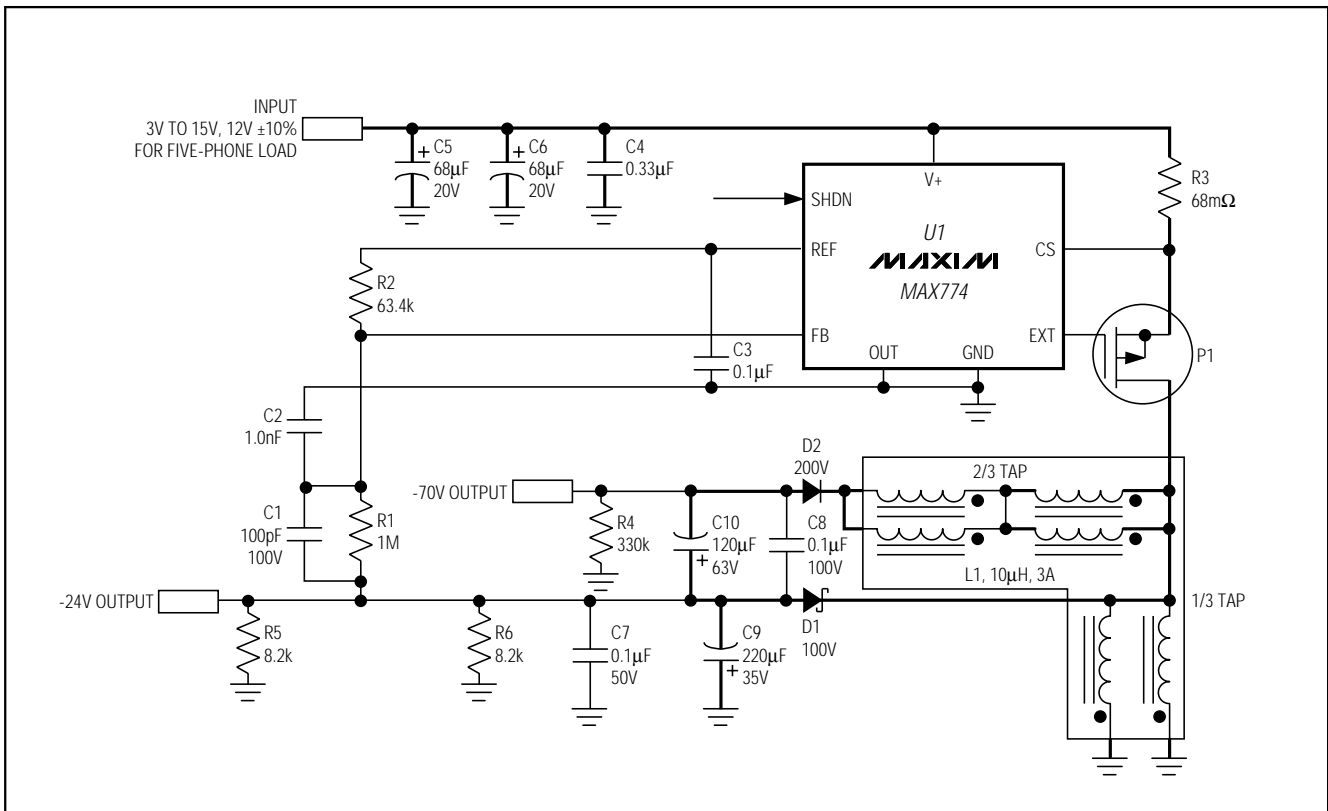

Figure 1. MAX774 IRG EV Kit Schematic
The EV kit schematic (Figure 1) and the MAX774 block diagram in the MAX774/MAX775/MAX776 data sheet show how the circuit works. When the -24V output drops out of regulation, the error comparator in the MAX774 initiates a switching cycle. The P-channel MOSFET (P1) turns on, allowing current to ramp up through the transformer's lower windings (between the 1/3 tap and ground) and store energy in a magnetic field. When the current through the sense resistor crosses the trip threshold ( $210\text{mV} / 68\text{m}\Omega = 3.09\text{A}$ ), the MOSFET turns off and interrupts the current flow, causing the magnetic field in the transformer to collapse. The transformer forces current through the output diodes, transferring the stored energy to the output filter capacitors. The output filter capacitors smooth the power and voltage delivered to the load. The MAX774 waits until it senses the output dropping below the regulation trip point before initiating another cycle. The -24V output is precisely regulated by connecting a voltage divider, R1 and R2, as shown in Figure 1. The MAX774 regulates the FB pin, keeping it at 0V. The -70V output is regulated using the turns ratios between the -24V and -70V output.
Use preloading at the outputs to keep the -70V output in regulation. For designs servicing a five-ringer equivalent load, use the following preloads. For the off-hook case, only a couple hundred microamperes are necessary to hold down the -70V output. This can be achieved using either a 330kΩ resistor (R4, Figure 1) or zener diode (Figure 2b). For the on-hook case, draw approximately 5.5mA from the -24V output to hold up the -70V output. This 5.5mA can be drawn continuously using two 8.2kΩ resistors (R5 and R6), or intermittently using a transistor to gate the preload while the phone is ringing (Figure 2c). The transistor can be controlled using a microcontroller input/output line, or it can be decoded from the control signals of the AM79R79.
- 3) Make high-power traces, highlighted in the EV kit schematic (Figure 1), as short and as wide as possible. Make the supply-current loop (formed by C5, C6, R3, P1, and L1) and output current loops (L1, D1, and C9 for the -24V output; L1, D2, C9, and C10 for the -70V output) as tight as possible to reduce radiated noise.